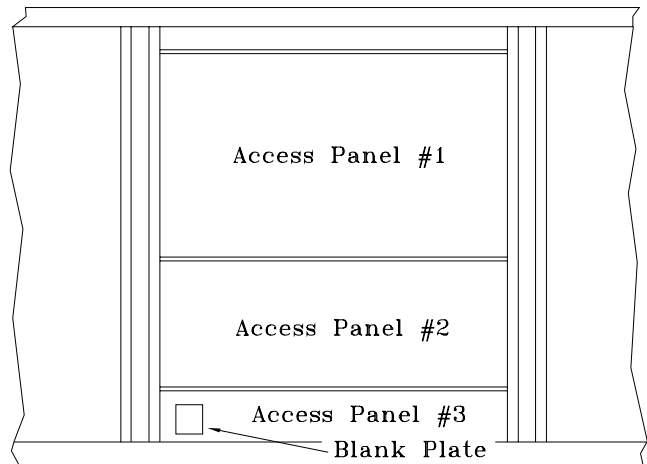

Figure 2A
4. Locate perforation in insulation over removable panel where heaters are to be installed. See Figure 2A for horizontal units or Figure 2B for downflow units.